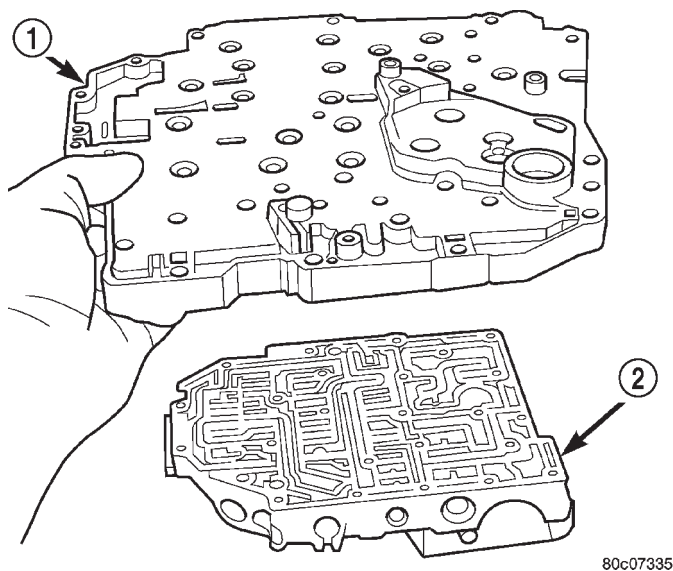

Fig. 125 Transfer Plate and Valve Body
- (7) Remove transfer/separator plate from valve body (Fig. 125)